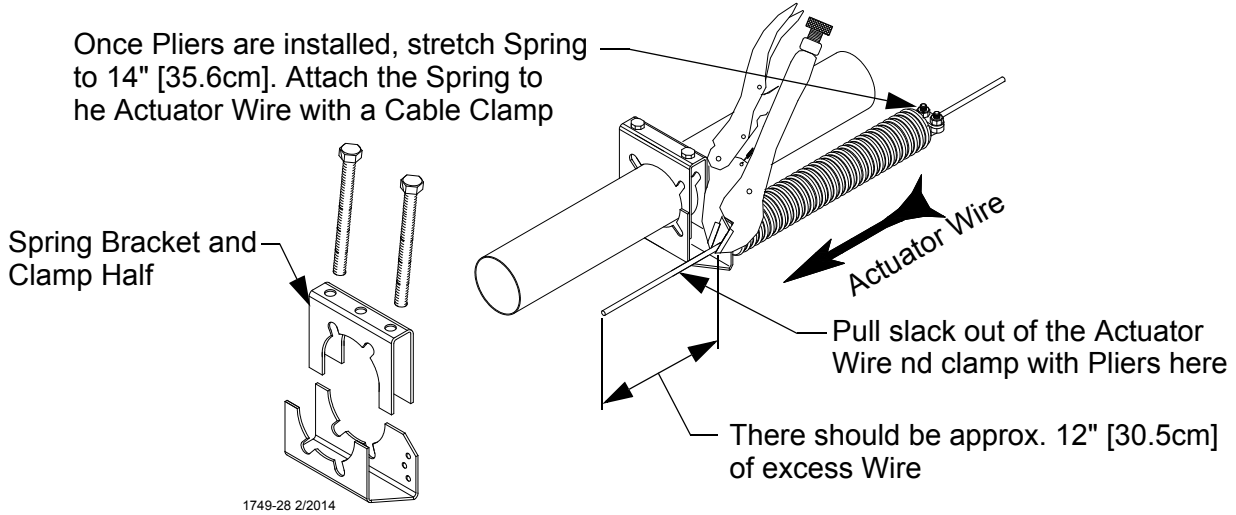

Figure 64. Terminal Bracket
6. Clamp with pliers once slack has been removed from the actuator wire, see figure 64.
9. Clamp the springs to the actuator wire using an 1/8 inch cable clamp, see figure 64. Repeat procedure for the remaining actuator wire installation,